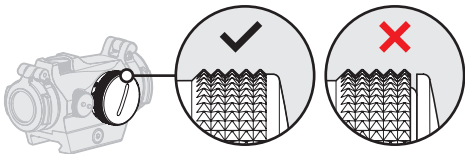

Fig. 6 The battery compartment with battery cap
Clean contact surfaces in the battery compartment and verify that the Battery (7) is working and that it is installed correctly according to 2.1.1. Verify that there is **zero** gap between the Battery cap (6) and the battery compartment. See Fig. 6. If the Rotary switch (8) is defective, notify local dealer/armourer.